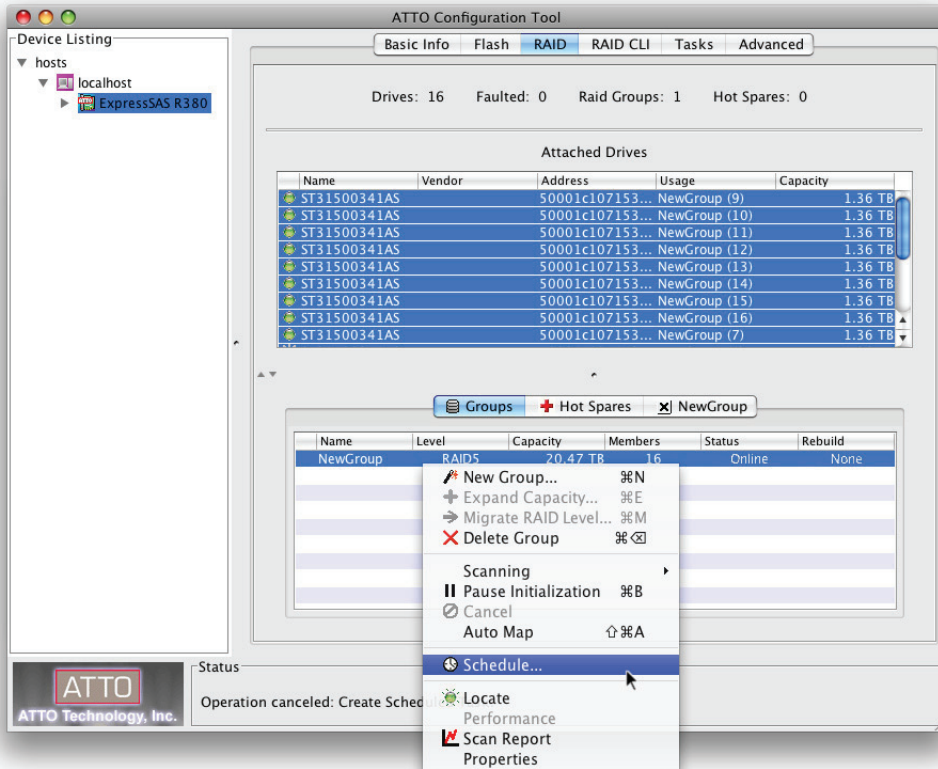

Figure 23
2. Control-click (or right-click) the RAID group and select Schedule. See **Figure 23** on page 30. You may also select RAID Management > Schedule from the application menu.